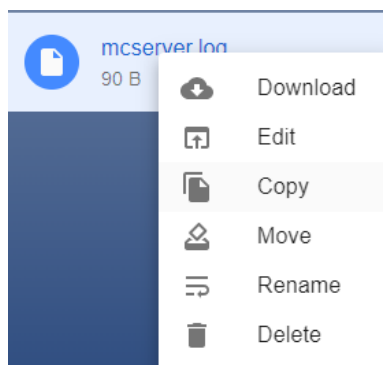

Figure 11-8 : operation on file
3. After selecting the file, right-click the mouse to download, edit, copy, move, rename, delete the file, as shown in **Figure 11-8** .